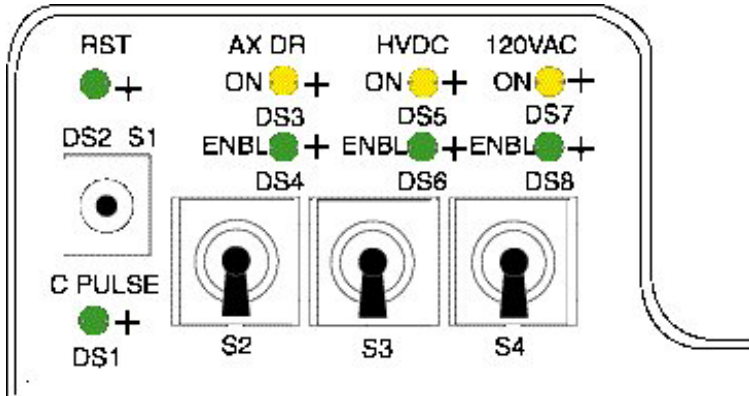

Figure A-16 STC Power Switches
- 3.) Verify the three (3) power switches have been turned **OFF** (see Figure A-16).